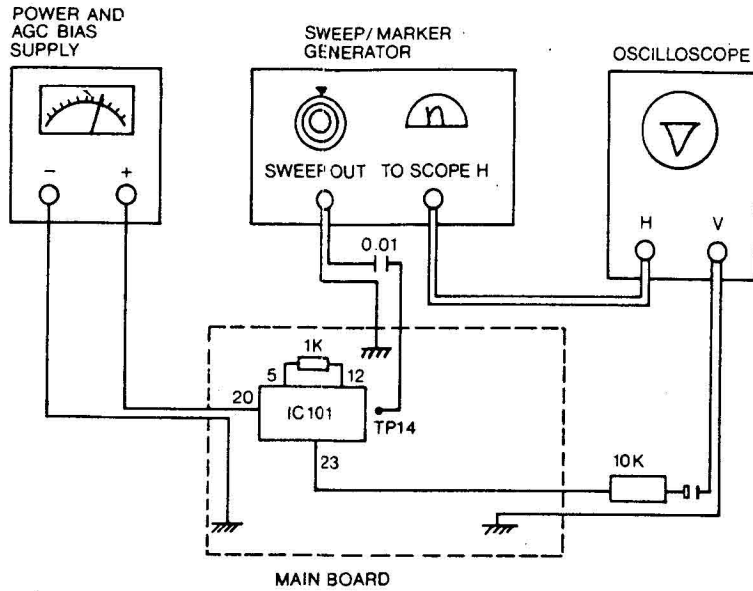

Fig.4 Sound Detector Alignment
4. Connect sound IF sweep/marker generator output to TP14 through a 0.01u capacitor as shown in figure 4.